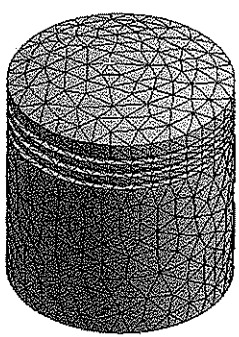

Figure 11-26 Mesh generated on the model with default settings
- 3. Choose **Generate Mesh** from the shortcut menu; the **ANSYS Workbench Mesh Status** box is displayed. After sometime, this box is closed and the mesh with default settings is generated, as shown in Figure 11-26.